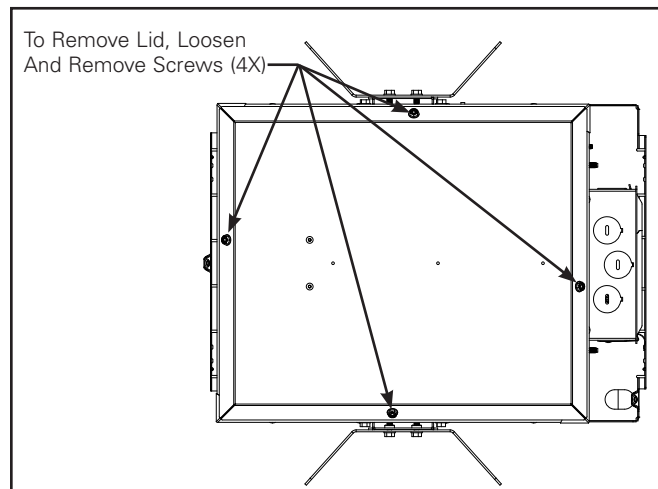

Figure 3
3. For situations where the housing lid is accessible after housing installation, see Figure 3 for removal.